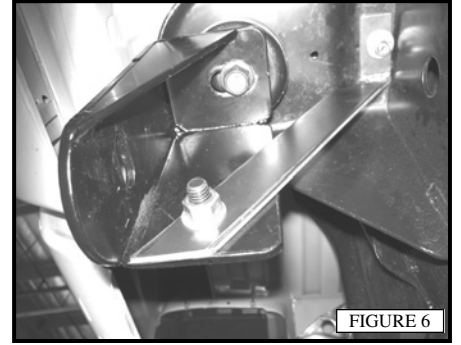

FIGURE 6
5. On 2005-2007 model year vehicles, insert an M8 hex bolt and M8 flat washer through a hole at the top surface of the body mount. Then install the passenger side rear support bracket and secure with (1) M8 flat washer and (1) M8 nylon insert lock nut. Attach the support bracket to the rear mounting bracket by using (1) M10 hex nut, (2) M10 flat washers, and (1) M10 nylon insert lock nut. 2008+ model years will use the M6 hardware provided with the kit in place of the M8 hardware. Do not fully tighten at this time. (FIGURE 6)